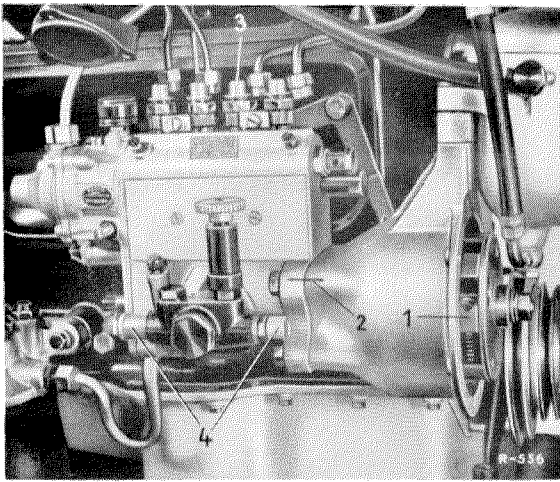

Figure 07-11/5
14. Insert the injection pump in the coupling sleeve in such a way that the fixing studs are situated in the middle of the slotted holes (1) of the mounting flange (see Figure 07-11/4). This allows turning of the pump in two directions for fine tuning.
locating marks (2) on the mounting flange of the injection pump and the timing housing cover coincide (see Figure 07-11/5).